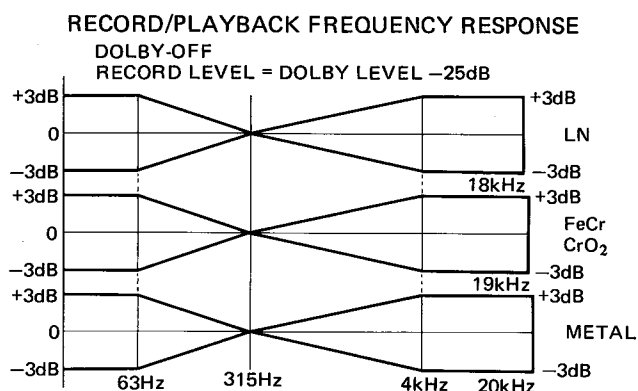

Fig. 22
- Connect a dual channel AC VTVM (A) to TP501 (left), TP502 (right) and ground, and connect a dual channel AC VTVM (B) to both left and right line output jacks.
- Connect an audio signal generator to both left and right line input jacks. Adjust the generator input level for an output on VTVM (A) of 775mV -25dB, when the unit is in recording mode.
- Play back the CrO2 tape recorded above, note the frequency response obtained on the VTVM (B) and compare to Fig. 22.
- If the above frequency response is not within the CrO2 area on Fig. 22, adjust TC251 (left), TC252 (right) and VR253 slightly. Repeat steps e) and f) until playback frequency response on the VTVM (B) is adjusted within the range as shown in Fig. 22.
- Play back the metal tape recorded above and note the frequency response obtained on the VTVM (B).
- If the above frequency response is not within the METAL area of Fig. 22, adjust VR207 (left) and VR208 (right) slightly. Repeat steps i) and j) until playback frequency response on the VTVM (B) is adjusted within the range as shown in Fig. 22.
- Play back the FeCr tape recorded above and note the frequency response obtained on the VTVM (B).
- If the above frequency response is not within the FeCr area of Fig. 22, adjust VR252 (left) and VR206 (right) slightly. Repeat steps m) and n) until playback frequency response on the VTVM (B) is adjusted within the range as shown in Fig. 22.
- Play back the normal tape recorded above and note the frequency response obtained on the VTVM (B).
- If the above frequency response is not within the LN area of Fig. 22, adjust VR251 (left) and VR204 (right) slightly. Repeat steps q) and r) until playback frequency response on the VTVM (B) is adjusted within the range as shown in Fig. 22.